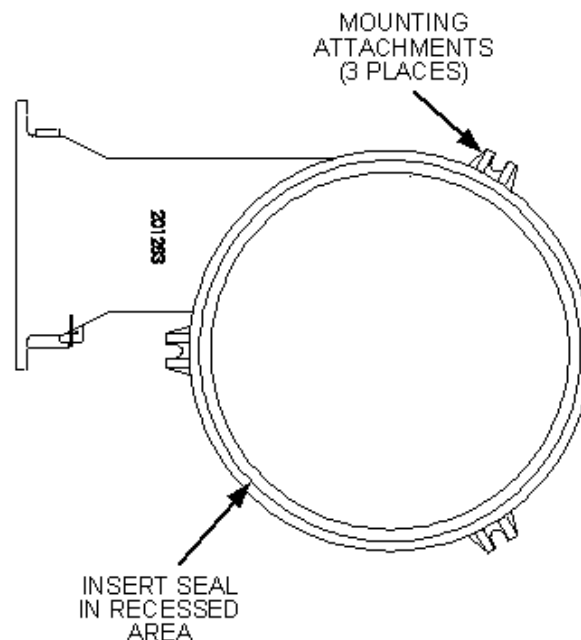

Figure 8: Benchmark 2.0LN (Venturi Design) Exhaust Manifold – Top View
7. Replace the exhaust manifold seal (P/N. 123612) with the new seal provided in the 24-month maintenance kit. Install the adhesive-backed seal in the recess of the exhaust manifold flange (adhesive side down). See Figure 8.